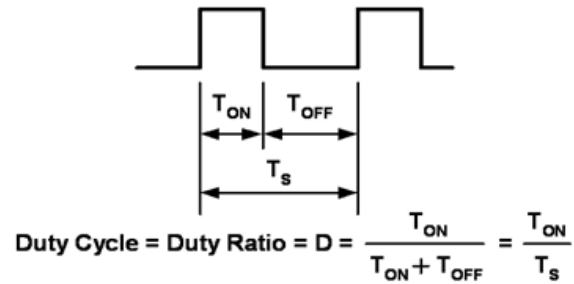

Figure 13.
LEDs on and off for a portion of a single cycle. This on/off cycle is called the Duty cycle (D) and is expressed by the amount of time the LEDs are on ( $T_{ON}$ ) divided by the total time of an on/off cycle ( $T_s$ ) (Figure 13).